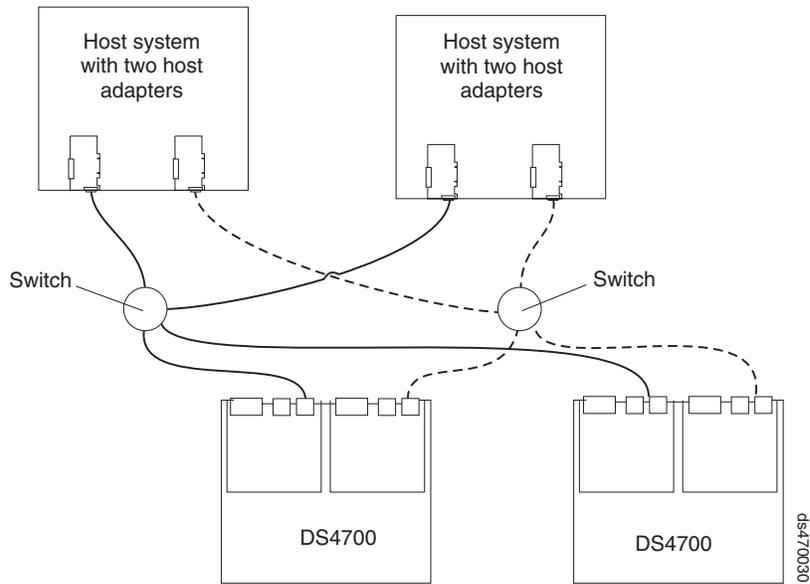

Figure 72. Example of two storage subsystems in a dual SAN environment
- Two storage subsystems in a dual SAN fabric configuration, as shown in Figure 72 on page 86
In Figure 72 on page 86, the fibre channel switches are not connected together. Each switch forms its own SAN fabric.